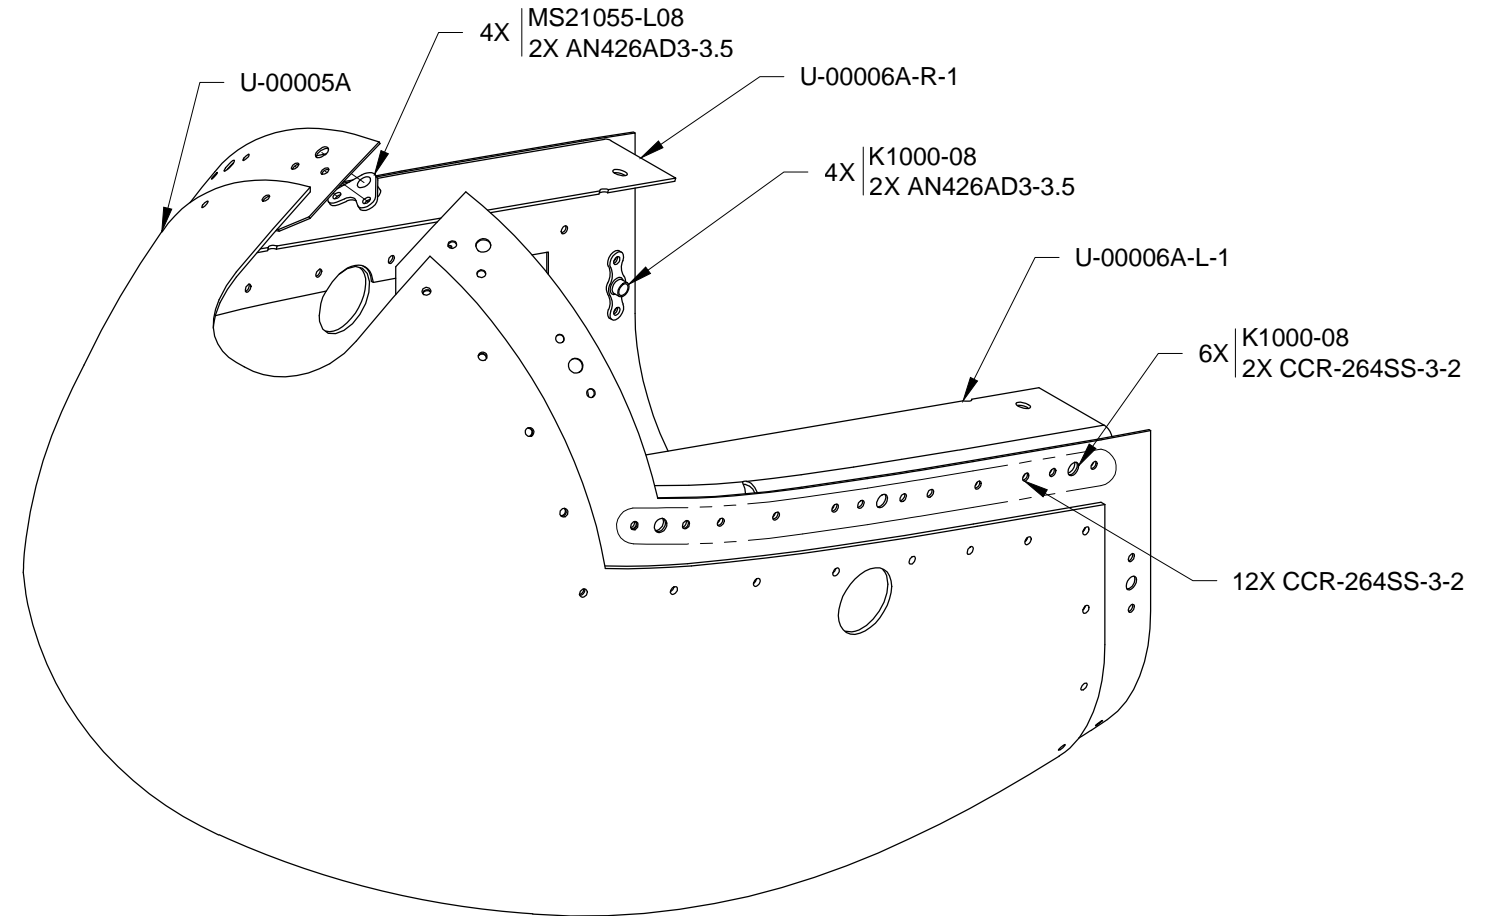

FIGURE 2: RIVETING WHEEL FAIRING BRACKETS AND NUTPLATES TO THE WHEEL FAIRING FRONT
Step 7: Cleco then rivet the U-00006A-1 Wheel Fairing Brackets to the U-00006B Splice Strips. Install the nutplates called out in Figure 2.
Step 2: Attach the U-00005B Wheel Fairing Aft to the U-00006B Splice Strips. Clamp the drill template to the wheel fairing brackets. Use a fine point felt pen to mark the drill template along the intersection between the drill template and the wheel fairing brackets. See Figure 2.